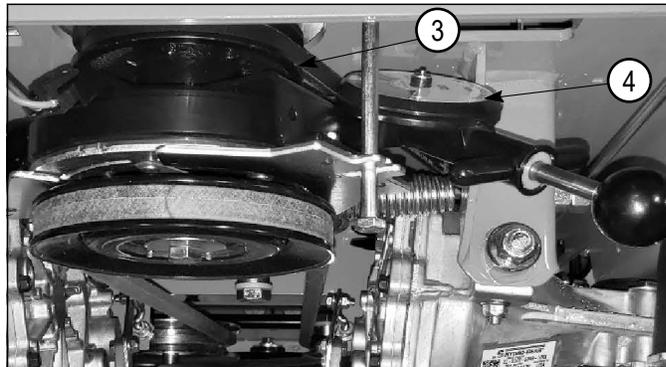

Figure 6-7
3. The tension should be adjusted so that there is between 60–65 lb (27–30 kg) of tension on the belt (3). Recheck belt tension after 30 minutes.
4. Check belt tension with a belt tension gauge (4) (Part Number 041-9999-00) as shown in Figure 6-7.